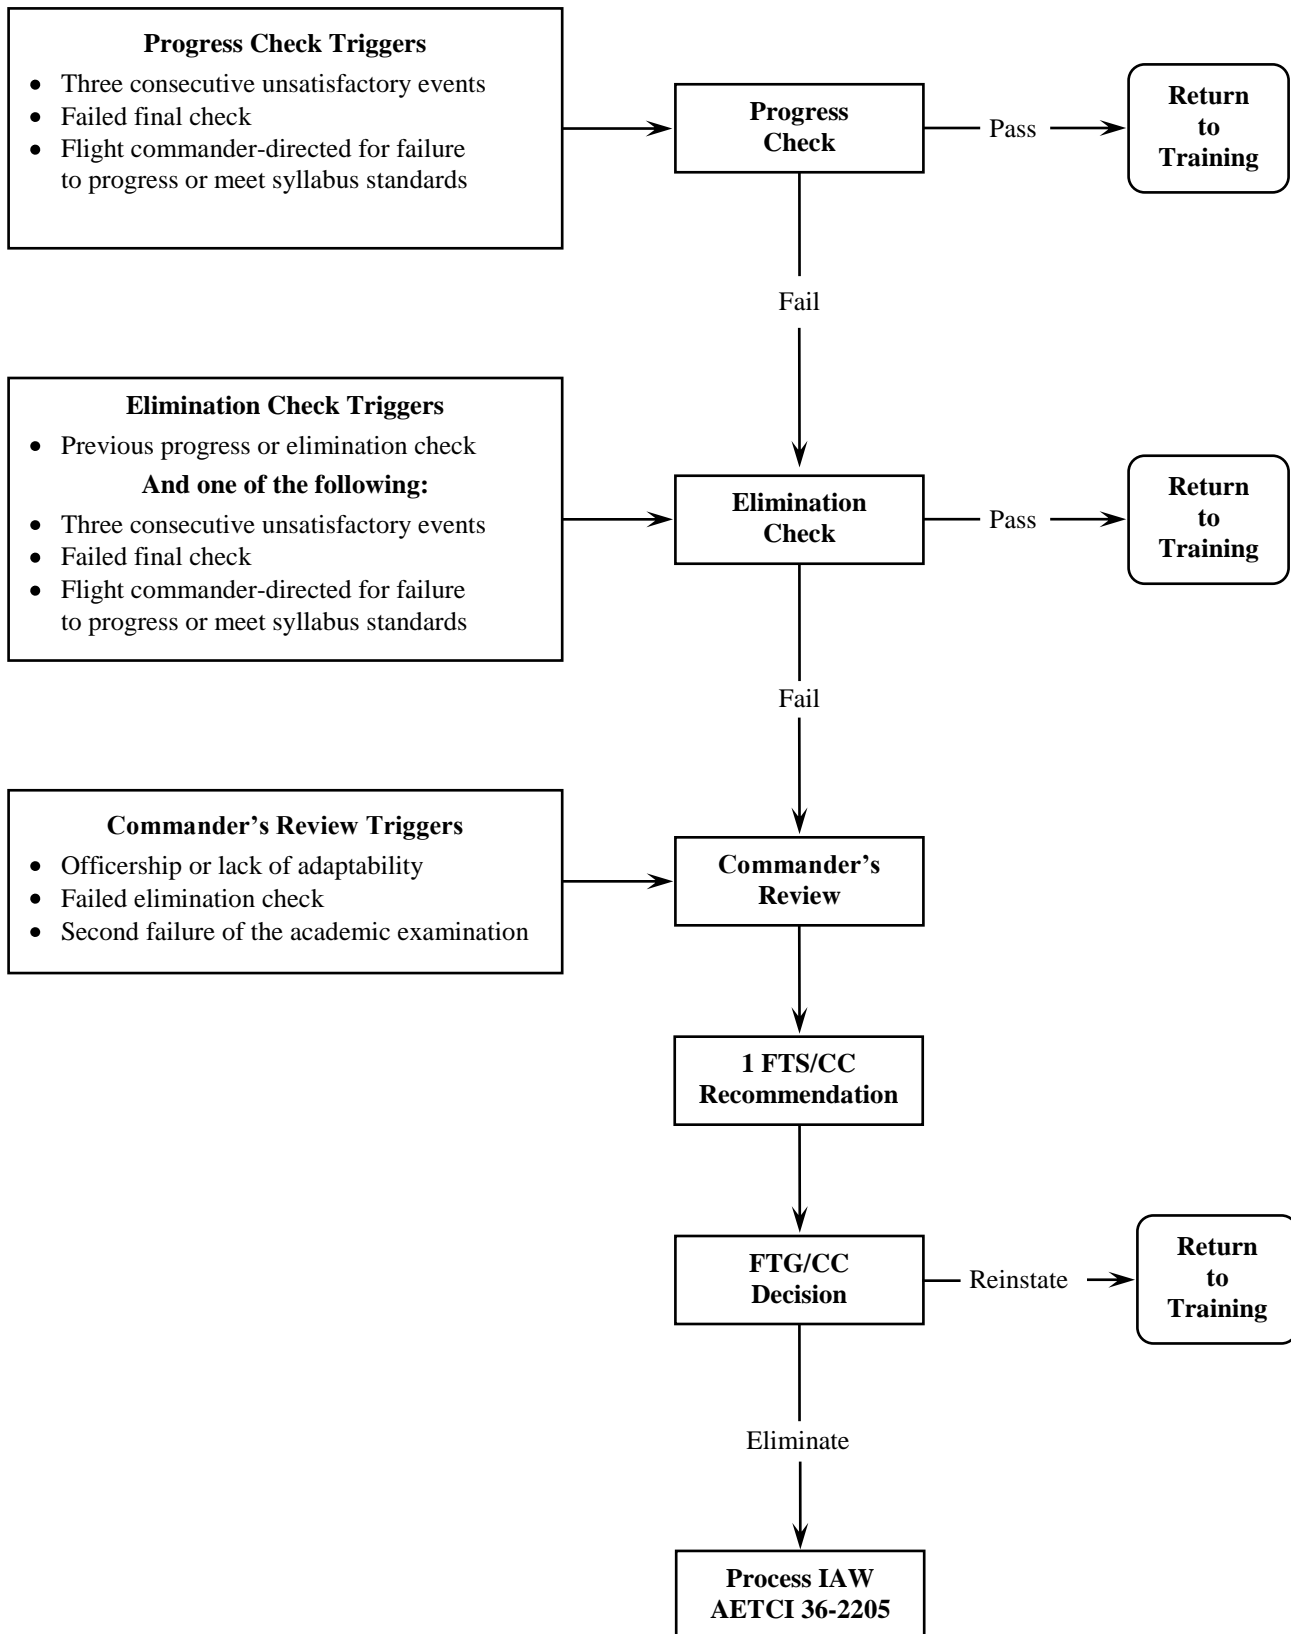

Figure 2-1 — Commander's Review Process
- e. *Progress Check (PC)* — Figure 2-1 shows a list of PC triggers. When assigning an overall grade, the PC pilot should consider the student's ability to complete the course within syllabus constraints as well as overall proficiency and situational awareness. The overall grade is NG or U. Document a PC as **NX88** and include in the student's training folder.
- f. *Elimination Check (EC)* — Figure 2-1 shows a list of EC triggers. When assigning an overall grade, the EC pilot should consider the student's ability to complete the course within syllabus constraints as well as overall proficiency and situational awareness. The overall grade is NG or U. Document an EC as **NX89** and include in the student's training folder. A student who fails an EC is entered in the commander's review process according to AETCI 36-2205.
- (1) The following table identifies check pilots and the types of checks they are authorized to administer. Designated individuals complete a checkout program and are certified by the squadron commander. Only highly qualified QAEs and CFIs may be certified as PC pilots.
- (2) The objective of the final check is to ascertain a student's ability to adapt to military flying and complete UCT.
13. Commander's Review (CR) Process
Figure 2-1 depicts the triggers and decision-making flow for progress checks, elimination checks, and commander's reviews. Students reinstated into training after a commander's review (CR) because of a flying deficiency must fly an elimination check following completion of the additional training sorties authorized in the reinstatement write-up.